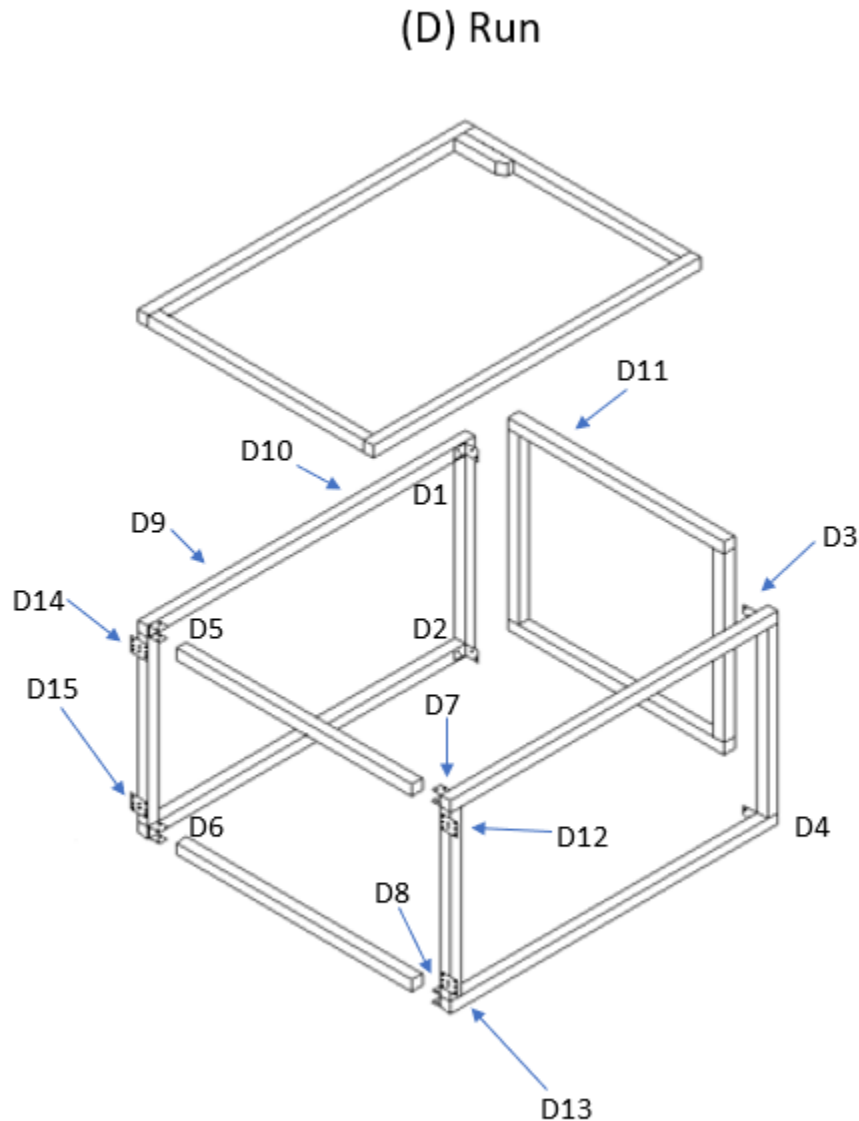

Figure 1.9
(See figure 1.9 below)
Step 12.) Locate the wire run panels and hinged wire top. Begin by attaching the longer wire side panels to the shorter wire end panel using the metal “L” brackets and the ½” pan head screws provided. As shown in figure 1.9
Step 15.) Attach the run lid hinge stay to point (D11) on the run end panel using a 1" panhead screw. Refer to figures 1.9 and 2.0 for placement.